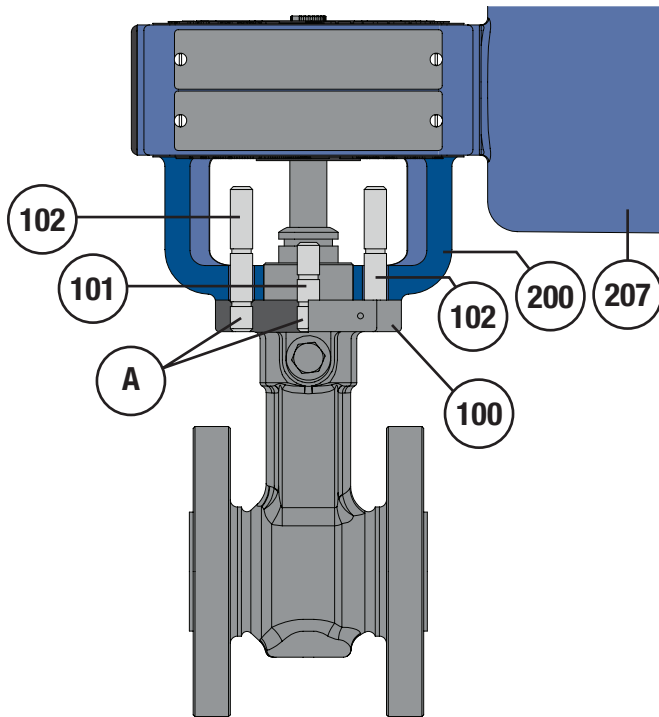

Figure 41 Mounting/Packing Stud Placement
- 2 Thread the studs (Keys 101 & 102) into the valve body (Key 100) nickel anti-seize coated end first, until they are completely threaded into the valve body. **NOTE:** Stud placement is dependant on where the window of the yoke (Key 200) is relative to the mounting pad of the body. Stud positions may need to be switched around if valve/actuator orientation has changed. Mounting studs (Key 101, short studs) should be installed so that they are easily accessed through the window of the yoke. Refer to Figure 41.